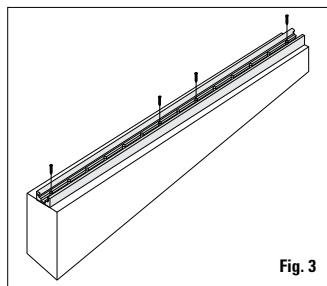

Fig. 3
Step 3: Attach wireway channel. Center wireway channel (T1) on the top rail with flat side against railing and attach with 4 stainless steel screws provided. For a 6' on-center railing system, you will need 3 wireway channels. (Fig. 3)